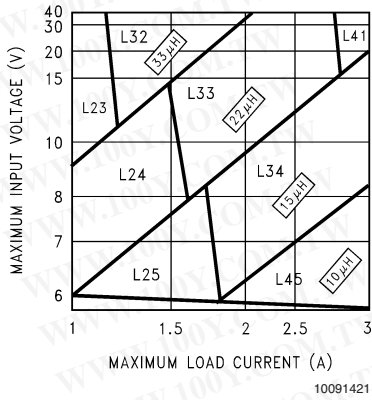
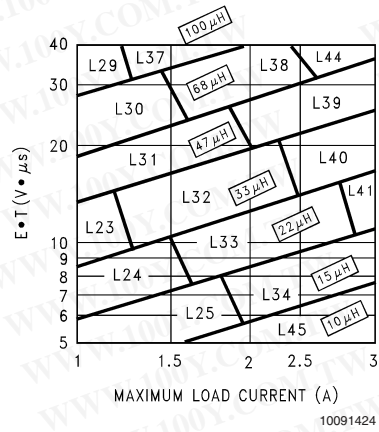

FIGURE 3. LM2676-3.3
FIGURE 6. LM2676-ADJ
Step 3: Determine the inductor required by using one of the four nomographs, *Figure 3* through *Figure 6*. Table 1 provides a specific manufacturer and part number for the inductor.
Step 5: Determine an input capacitor from Table 4 for fixed output voltage applications. Use Table 2 to find the specific capacitor type. For adjustable output circuits select a capacitor from Table 2 with a sufficient working voltage (WV) rating greater than $V_{in\ max}$, and an rms current rating greater than one-half the maximum load current (2 or more capacitors in parallel may be required).
Step 3: Use the nomograph for the 3.3V device, *Figure 3*. The intersection of the 16V horizontal line ($V_{in\ max}$) and the 2.5A vertical line ($I_{load\ max}$) indicates that L33, a 22 μH inductor, is required.
Step 3: To use the nomograph for the adjustable device, Figure 6, requires a calculation of the inductor Volt \cdot microsecond constant ($E\cdot T$ expressed in $V\cdot\mu S$) from the following formula:
Using Figure 6, the intersection of 27V $\cdot\mu S$ horizontally and the 2A vertical line ($I_{load\ max}$) indicates that L38, a 68 μH inductor, should be used.
Important Note: When using the adjustable device in low voltage applications (less than 3V output), if the nomograph, Figure 6, selects an inductance of 22 μH or less, Table 6 does not provide an output capacitor solution. With these conditions the number of output capacitors required for stable operation becomes impractical. It is recommended to use either a 33 μH or 47 μH inductor and the output capacitors from Table 6.